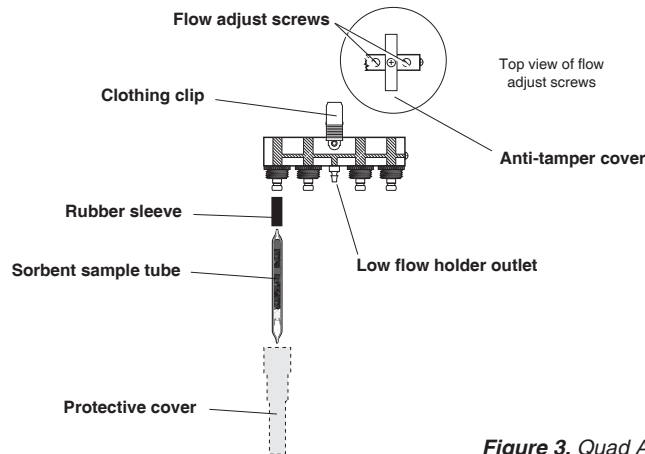

Figure 3. Quad Adjustable Low Flow Tube Holder
### Using a CPC and Dual, Tri, or Quad Adjustable Low Flow Tube Holder (Figure 3)
5. Using a small screwdriver, loosen and turn the brass flow adjust screw (see above right) directly beneath the port holding the first active tube to be calibrated (**clockwise** to increase, **counterclockwise** to decrease) until the calibrator indicates the method-specified flow rate. **Do not adjust the flow rate on the pump.** Note: For tri and quad models, first rotate each anti-tamper cover to expose the flow adjust screws, then adjust the appropriate one until the calibrator indicates the desired flow (Figures 3 and 5).